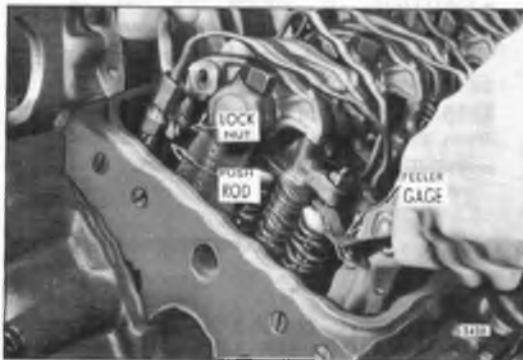
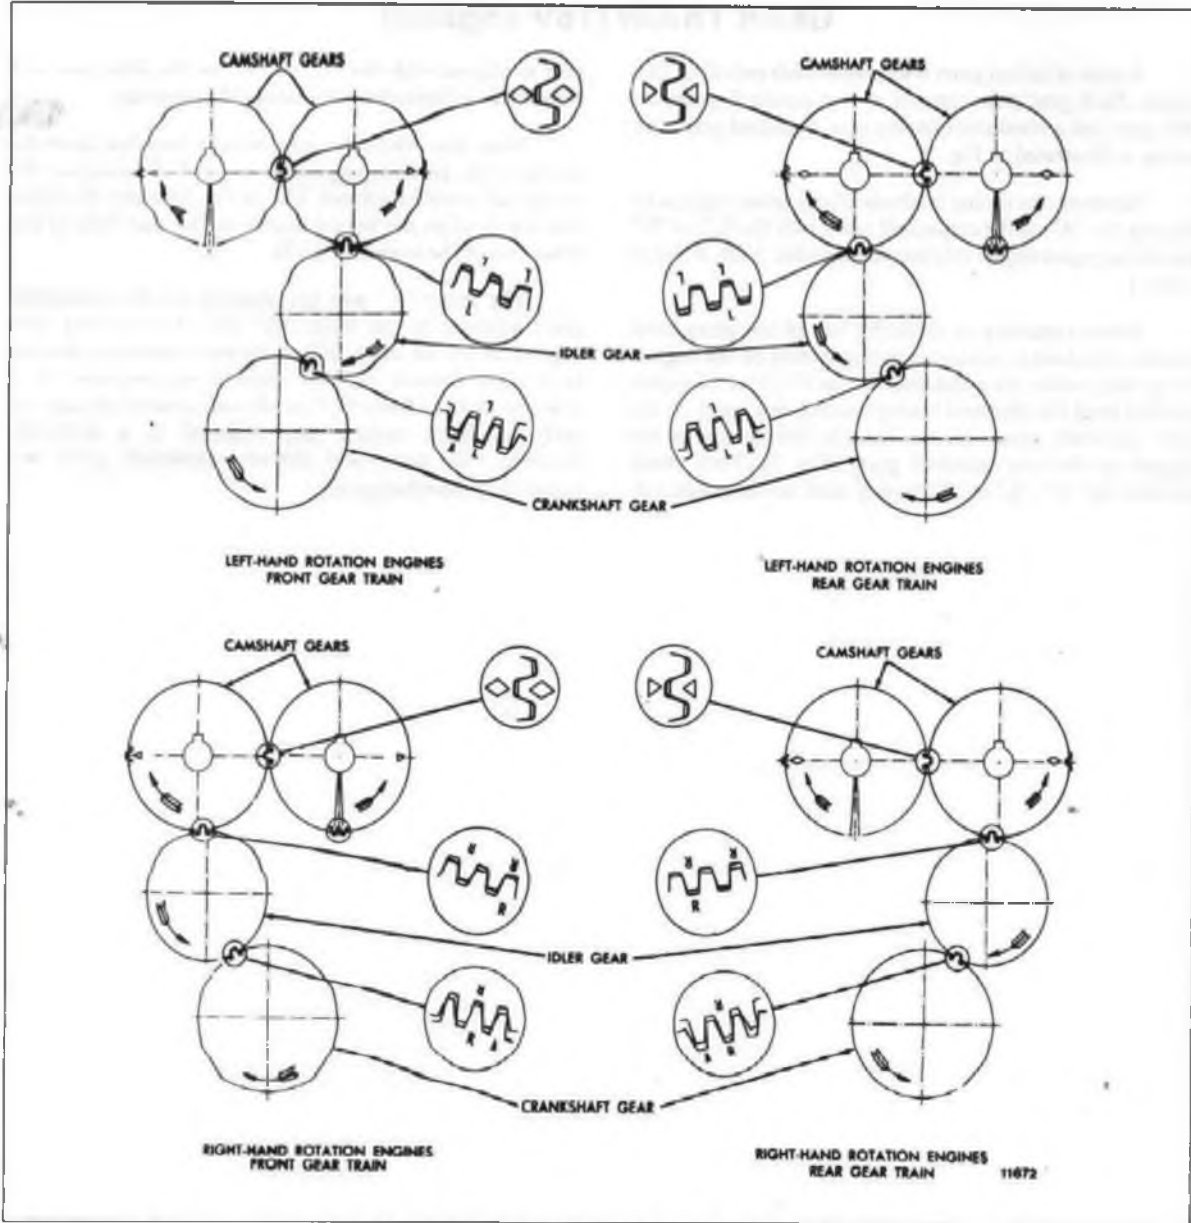

Fig. 2 - Adjusting Valve Clearance (Spring-Loaded Valve Bridge)
Fig. 3 - Gear Train and Timing Marks for 16V Engine
5. Place a .016" feeler gage (J 9708-01) between the end of the exhaust valve stem and the valve bridge adjusting screw (spring-loaded bridge only - Fig. 2) or between the valve bridge and the valve rocker arm pallet (unloaded bridge only - Fig. 3). Adjust the push rod to obtain a smooth "pull" on the feeler gage.
A train of helical gears is located at each end of the 16V engine. Each gear train consists of two camshaft gears, an idler gear and a crankshaft timing gear. Standard gear train timing is illustrated in Fig. 3.
Before removing or replacing any of the gears, note whether standard or advanced timing is used on the engine. To do this, rotate the crankshaft in the direction of engine rotation until the diamond timing marks are aligned on the front camshaft gears, or the triangle timing marks are aligned on the rear camshaft gears (Fig. 3). Then check whether the "A", "L" or "R" timing mark on the crankshaft
Note that when the gear train is installed (and the timing marks properly aligned) at one end of the engine, the crankshaft must be rotated 180° in the direction of engine rotation to align the timing marks on the gear train at the other end of the engine (Fig. 3).